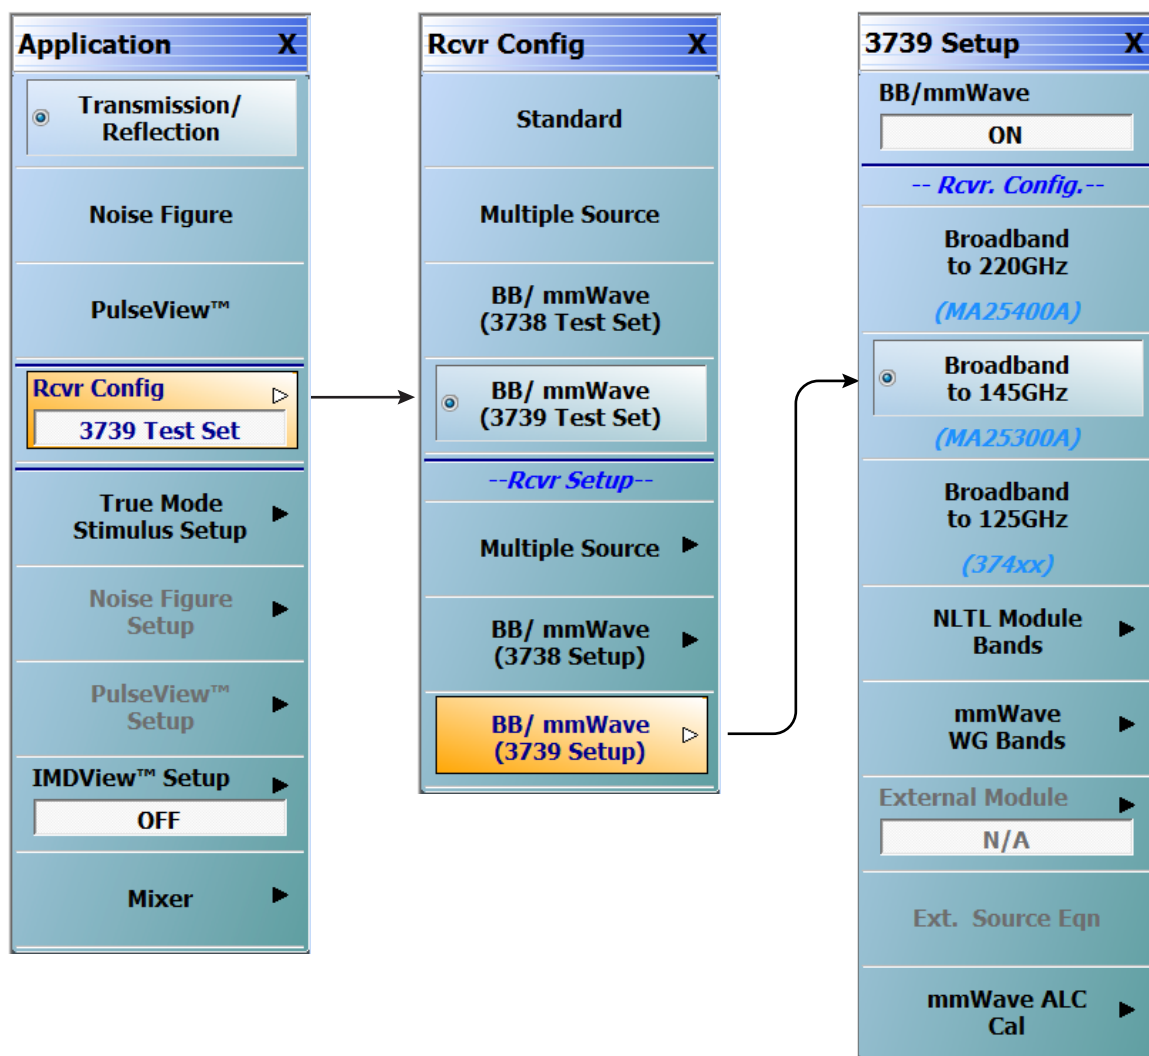

Figure 4-10. 3739 Setup for Broadband Modules (MS464xB Systems)
5. Select Broadband to 145 GHz as shown in Figure 4-10.